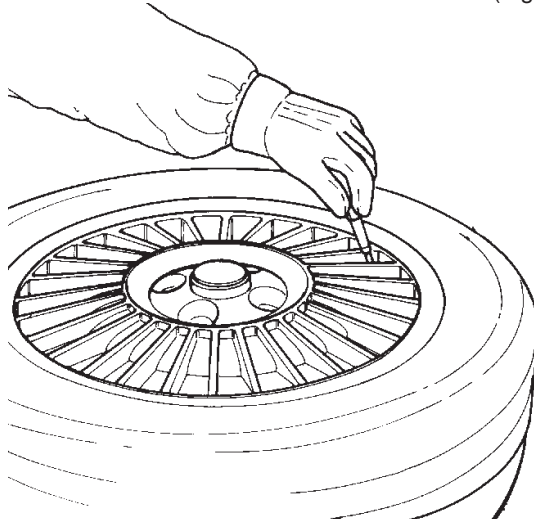

Fig.11
- A. Remove all wheel-weights from the rim. Remove the valve stem or valve stem core and deflate the tire (Fig.11).